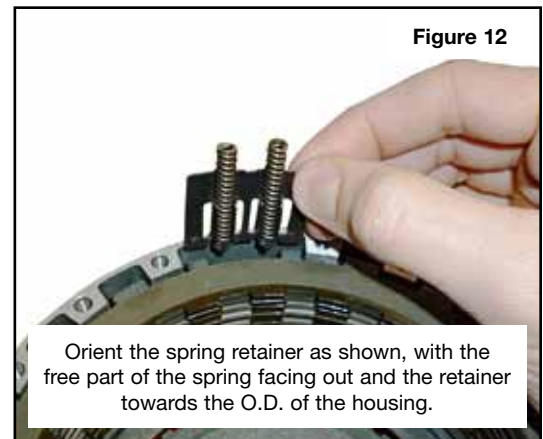

Figure 12
- Slide the spring retainers into the housing, with springs and retainers oriented as shown (**Figure 12**).